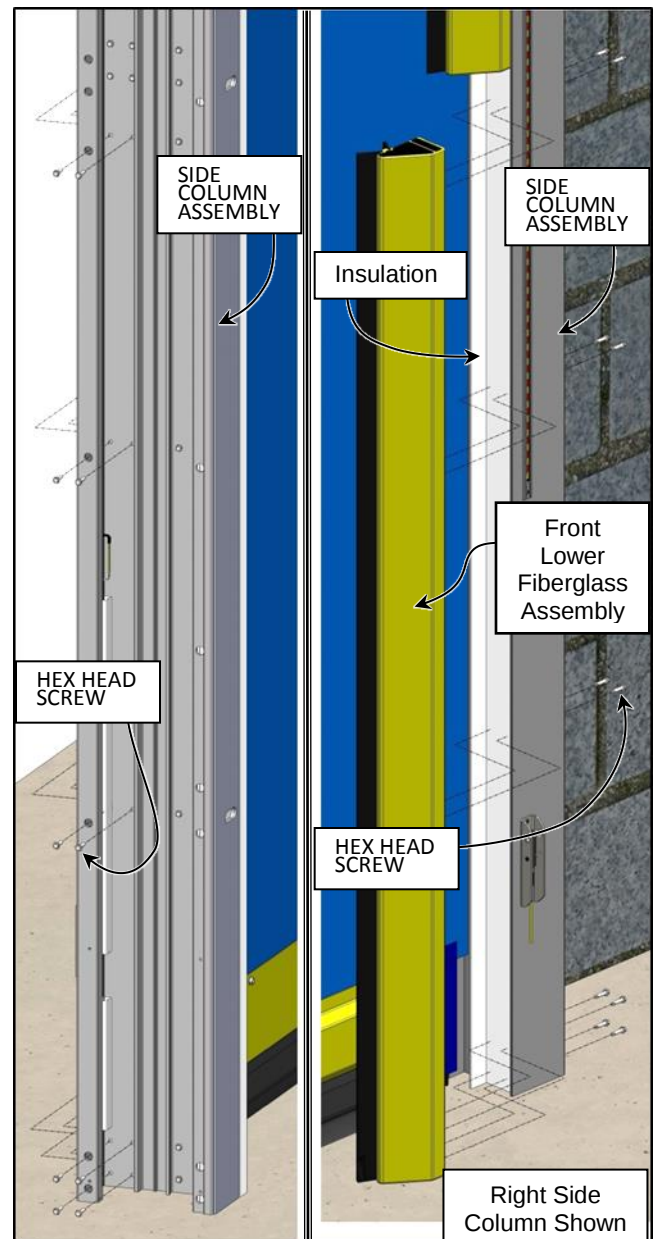

Figure 56
3. Remove the self drilling hex head tek screws securing the front fiberglass seal assembly to the side column. Do not strip the threads cut into the assembly. (See Figure 56)